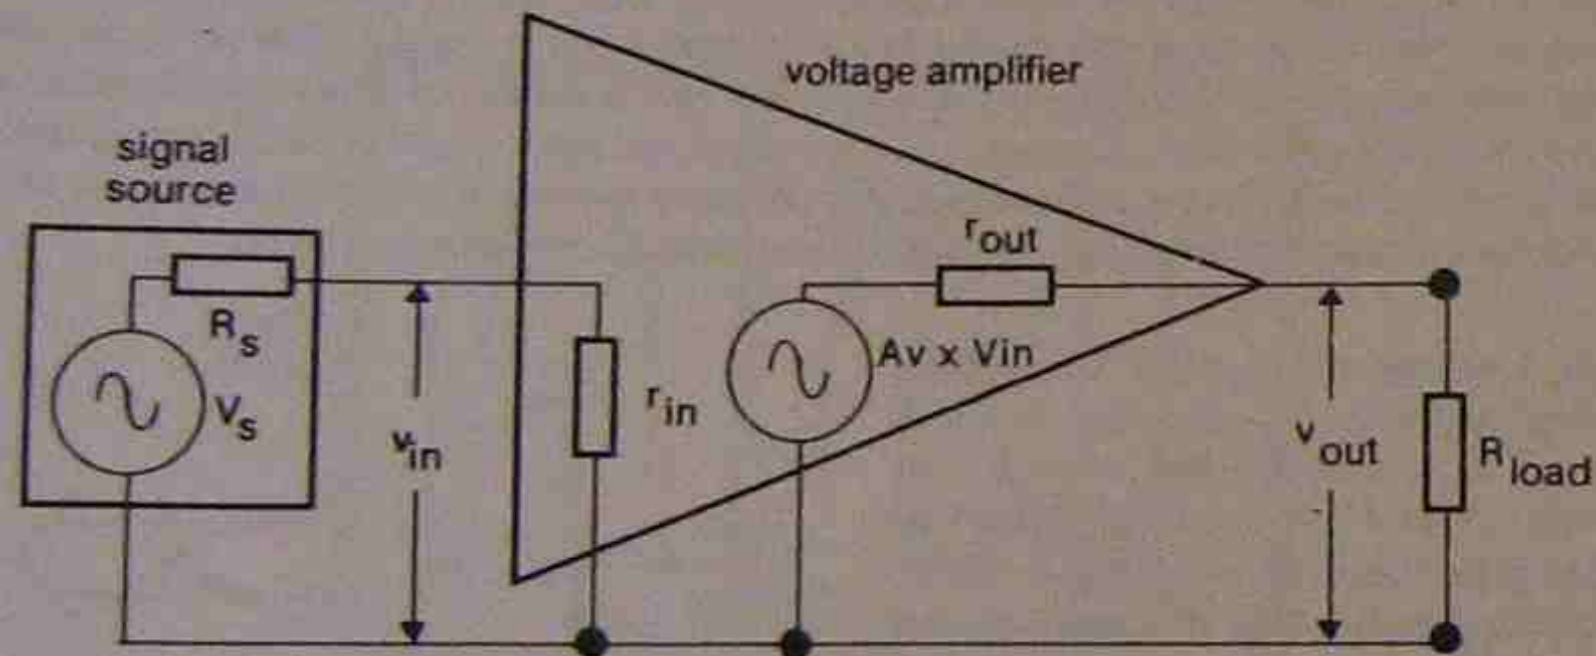

Fig.3: Equivalent circuit of a voltage amplifier
Fig.3 shows the equivalent circuit of a voltage amplifier connected to a signal source and a load. Note that this diagram can be modified to describe a power amplifier or a current amplifier.
- **Voltage gain (A_v)** is the ratio of the output voltage of an amplifier to its input voltage. In Fig.3, the voltage gain is shown by the internal voltage generator labelled $A_v \times v_{in}$. This generator represents that part of the amplifier circuit causing the input signal to be amplified.